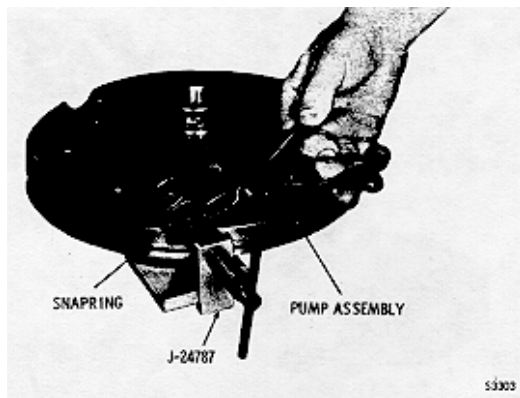

Fig. 6-29. Removing (or installing) main-pressure regulator valve
(9) Install main regulator valve remover tool J-24787. Compress spring stop 25 against main-pressure regulator valve spring 26 and remove retainer ring 24 as shown in figure 6-29.
(1) Install valve plug 14 into the main-pressure regulator bore of front support 21. Install pin 15 into the pump body side of front support 21.
(2) Install main-pressure regulator valve assembly 27, smaller end first, into its valve bore.
(3) Install valve spring 26 and spring stop 25 (smaller end first) into the valve bore.
(4) Install main regulator valve installer tool J-24787. Compress spring stop 25 against main-pressure regulator valve spring 26 and install retainer ring 24 as shown in figure 6-29.